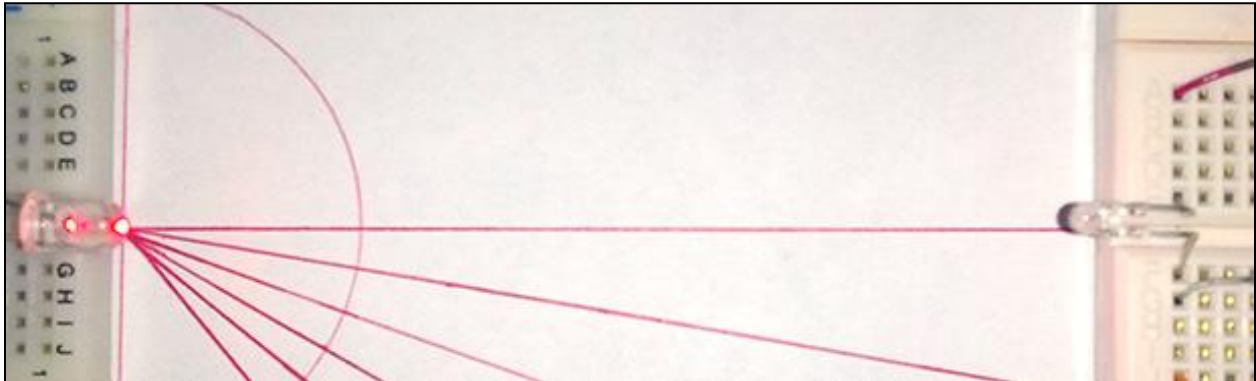

Figure 4: Alignment of LED and Phototransistor
- Place both breadboards on the **Reference Angle Sheet** provided. Connect an oscilloscope probe to  $v_{out}$  and power the circuits. Position the two breadboards so that the two devices are axially aligned as below (Figure 4) along the  $0^\circ$  line. Keeping the alignment, reduce the lens-to-lens separation to about 3-5 cm. Finally, vary the resistor value  $R_{PD}$  until the voltage at  $v_{out}$  is roughly 4-4.5 volts. **Record the Resistor used for  $R_{PD}$ , and the value of the separation between the devices: you must keep these constant throughout. Record the voltage at  $v_{out}$ .**
1. Return your LED and Phototransistor circuits to the axially aligned position at  $0^\circ$ , as in Figure 4. **In a new table of values, record the value of  $v_{out}$  at this separation length.**